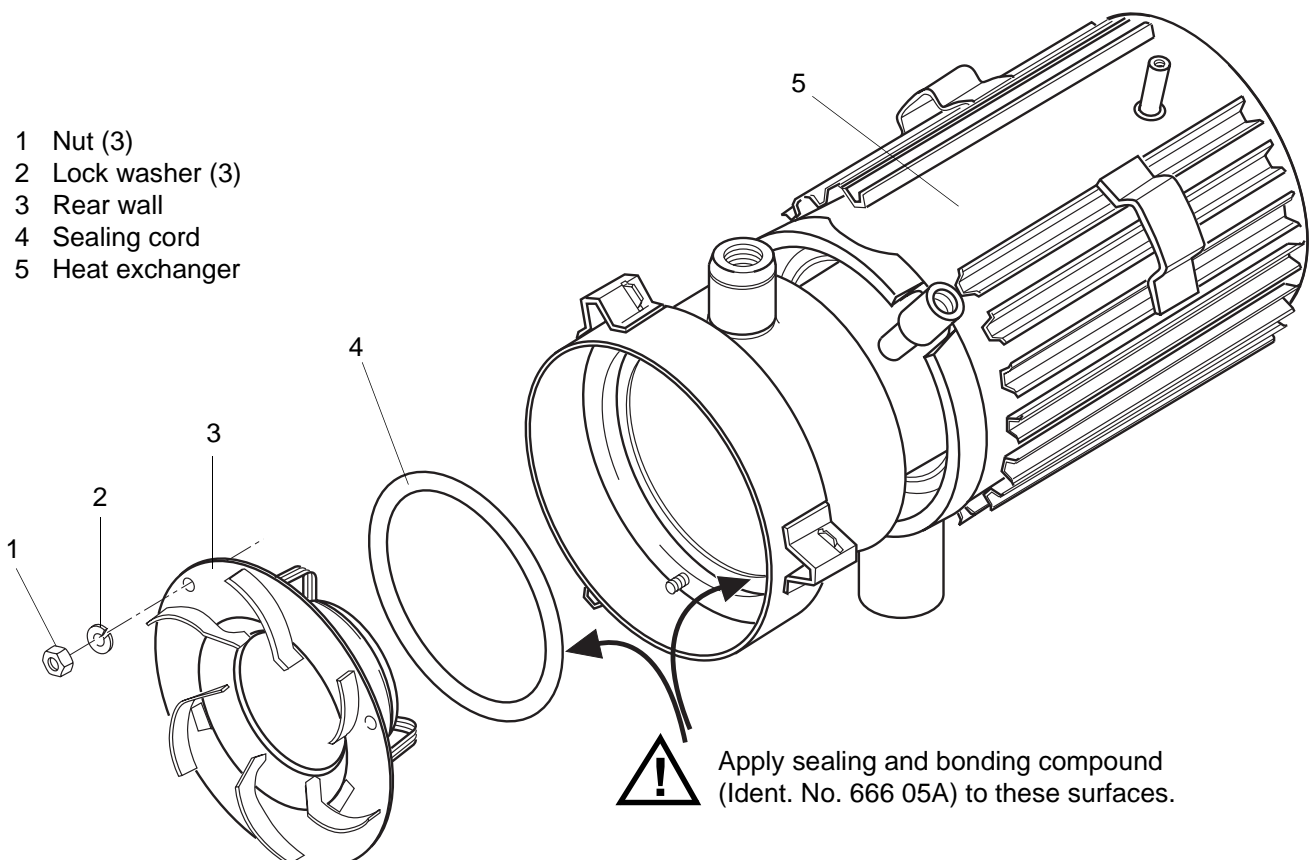

Fig. 903 Replacement of Heat Exchanger
7. Pull off end cap (6).
9. Remove nuts (1, Fig. 903) and lock washers (2).
10. Pull rear wall (3) out of heat exchanger and remove sealing cord (4).
1. Apply sealing and bonding compound (Ident. No. 666 05A) to mating surfaces of sealing cord (4, Fig. 903) and heat exchanger (5) and locate with rear wall (3) in heat exchanger (5) for assembly.
2. Secure rear wall (3) with nuts (1) and lock washers (2).
3. Torque nuts (1) to  $1.5 \pm 0.2$  Nm.